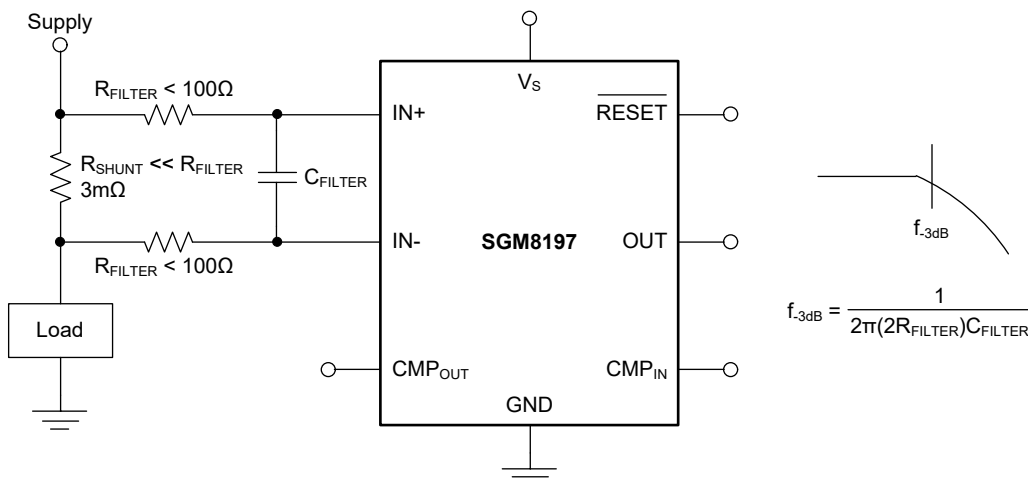

Figure 6. Filtering at the Input (Gain Error: 1.5% to 2.8%)
It is not recommended to add a filter at the output of SGM8197 series, as doing so will increase impedance seen at the output of the internal buffer. Filtering at the input pins would be a good choice as long as the change of the input impedance is taken in account. The corresponding filtering circuit is shown in Figure 6. The shift in the initial gain and the effects on the gain tolerance can be minimized by choosing a low resistor value. Equation 1 shows the effect of the initial gain.
1. For example, the calculated error of gain is 1.96% if the customers replace the two 100Ω 1% resistors at the position of R_{FILTER} (shown in Figure 6). However, the worst case is that the internal input impedance is 5kΩ - 30% and the offset of R_{FILTER} is 3%. Under this worst situation, the error of gain would be larger than normal after calculation.